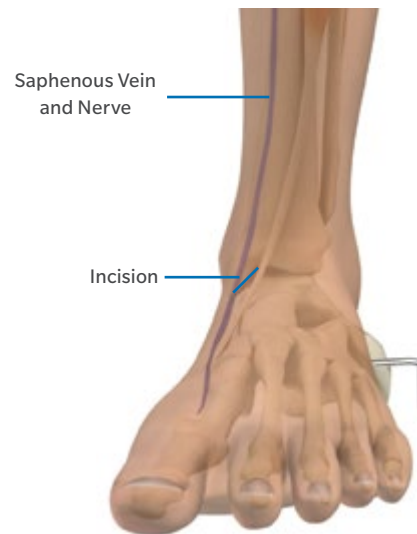

Fig. 7 Expose the medial gutter through anteriomedial arthrotomy.
- Incision should be approximately 3 cm-4 cm in length, over the medial gutter and medial to the anterior tibial tendon (Fig. 7).